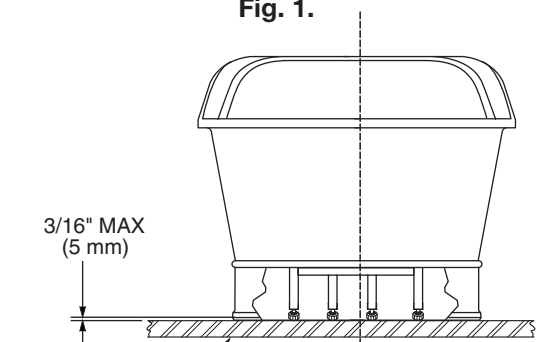

Fig. 2.
- Ensure that there is a gap between the tub base and the floor. Gap shall not exceed 3/16" (5 mm). See **Fig. 2**.